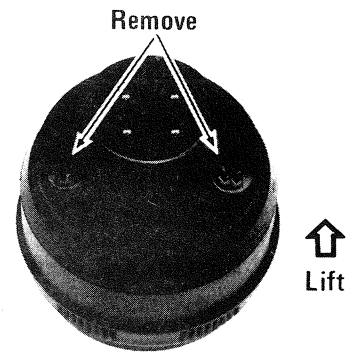

Figure 3-15. Screw Removal
- A. Remove two screws and lift off rear cover plate as shown. Fig. 3-15.